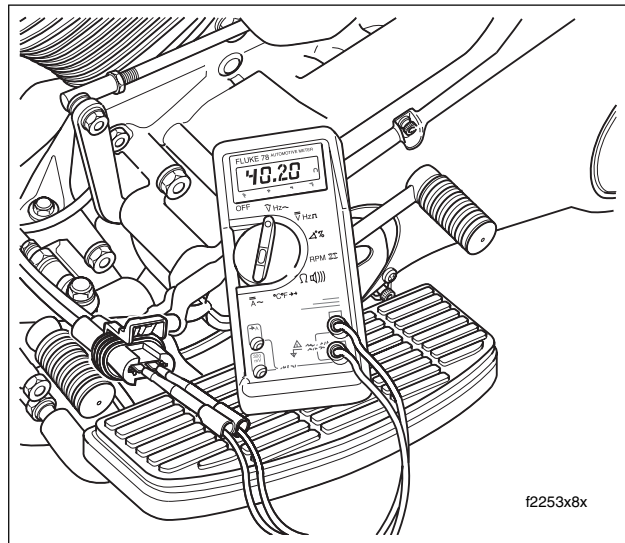

Figure 1-15. Check AC Output
1. See Figure 1-15. To test AC output, disconnect the regulator and connect an AC voltmeter across both stator sockets. Run the engine at 2000 RPM. The AC output should be as follows.